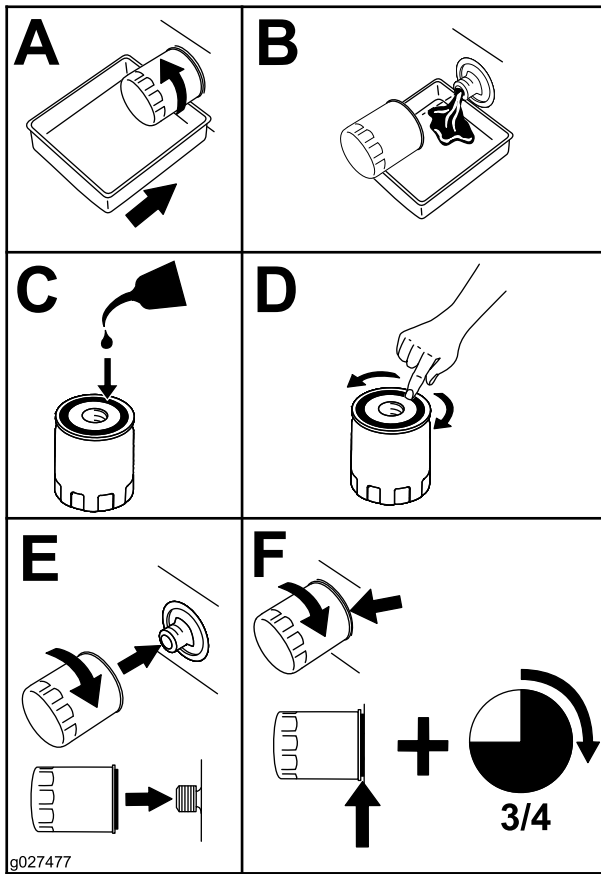

Figure 76
5. Change the engine-oil filter (Figure 76).